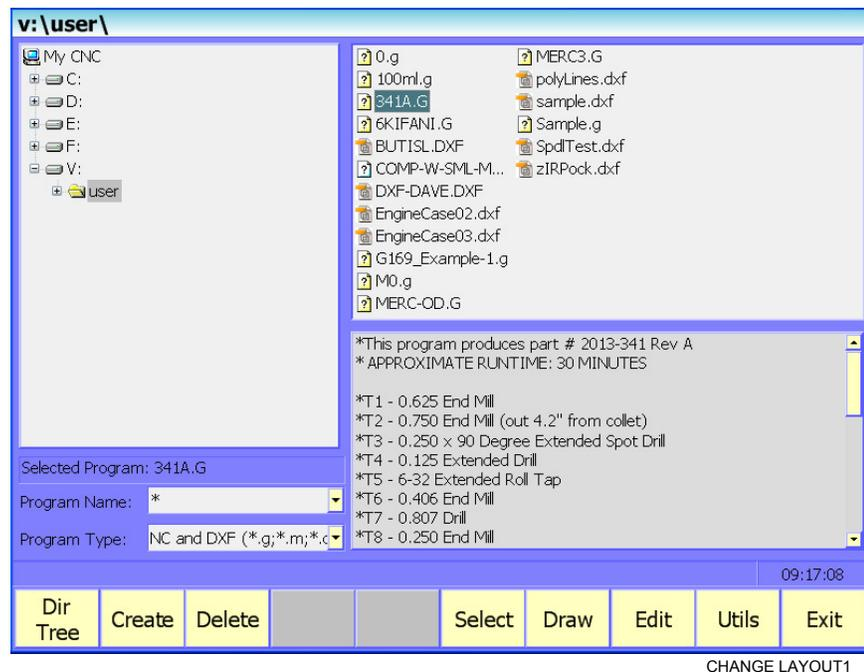

Figure 10-3, Change Layout Screen
- Select **Change Layout (SHIFT + F9)** to show the Program Manager structure. Refer to **Figure 10-3**.